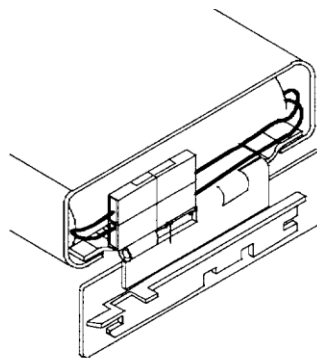

Figure 4.4
- 4.4 Once the battery is fully seated, engage the RF power source connector to the battery connector. See Figure 4.4.